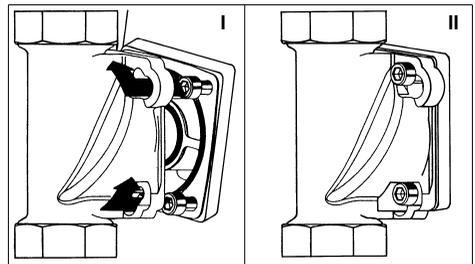

Fig. 8: Bayonet function (fig. similar)
- Position the water softening unit on the parallel connection flange so that the screw heads project through the bayonet holes (see fig. 8 I).
- Fully tighten the four M6×130 hexagon socket head screws (see fig. 8 II).